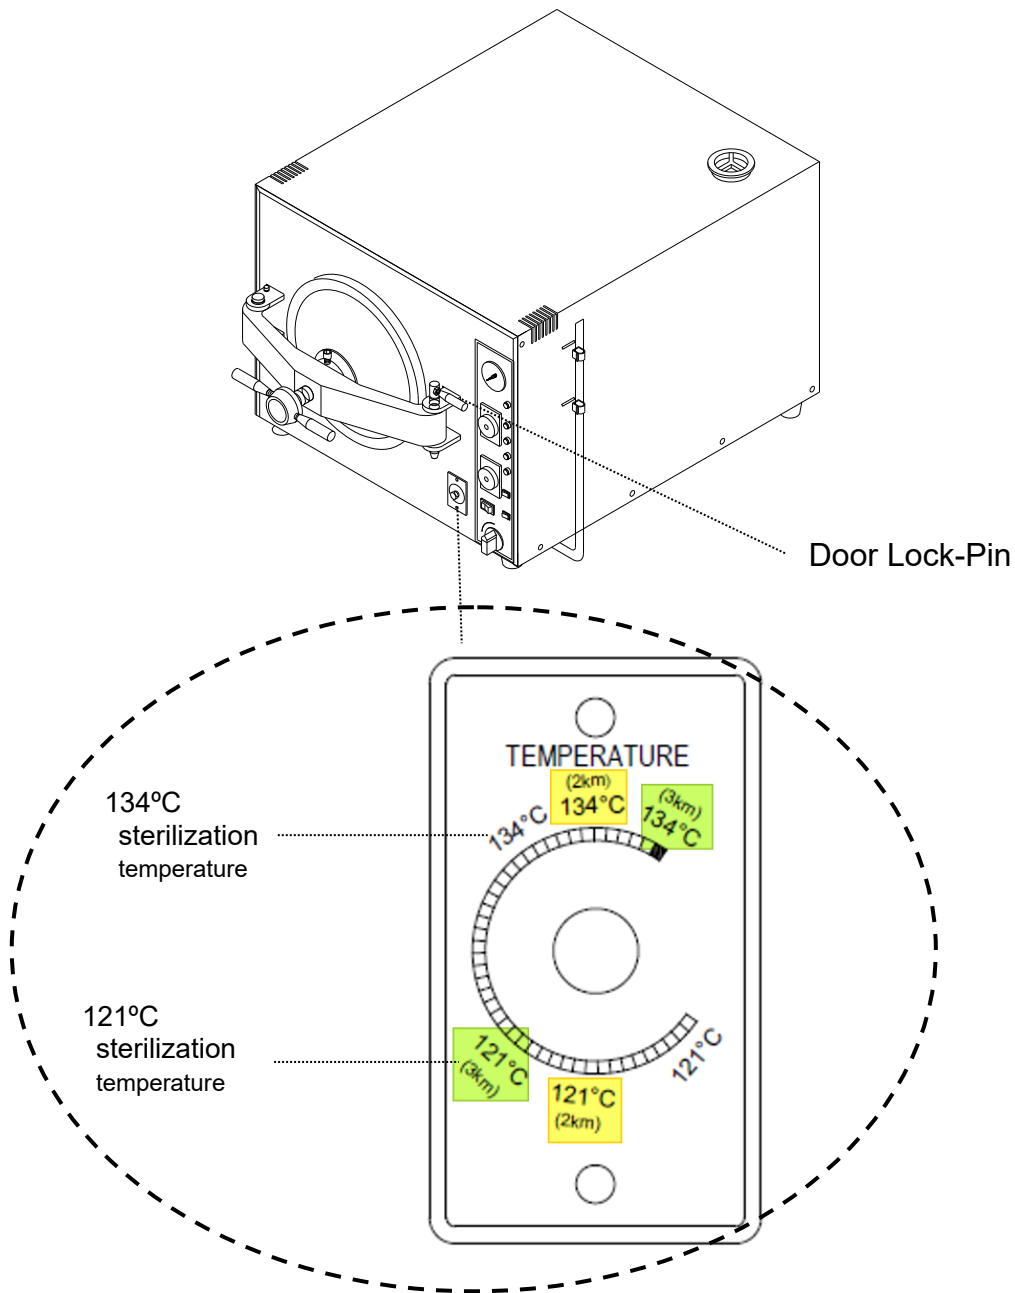

Figure 14
1. If the altitude is over 3000 meters, please turn the sterilization knob to 3km, see Figure 14.
2. If the altitude is over 2000 meters, please turn the sterilization knob to 2km, see Figure 14.
3. If the altitude is below 2000 meters, please turn the sterilization knob to the standard position (not highlight marked), see Figure 14.
1. If the altitude is over 3000 meters, please turn the sterilization knob to 3km. Please refer to Fig.14 to Fig.16.
2. If the altitude is over 2000 meters, please turn the sterilization knob to 2km. Please refer to Fig.14 to Fig.16.
3. If the altitude is below 2000 meters, please turn the sterilization knob to the standard position (not highlight marked). Please refer to Fig.14 to Fig.16.